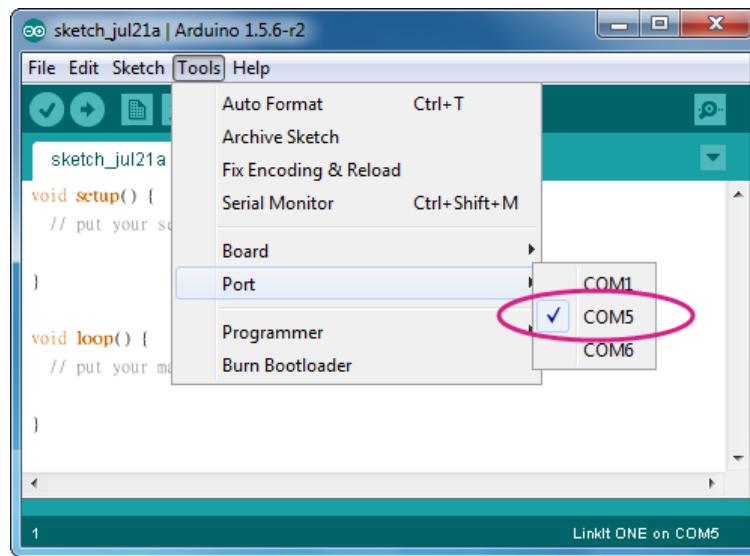

Figure 10 Setting the LinkIt ONE board's port number in Arduino IDE
- 7 In Arduino IDE on the **Tools** menu, point to **Port**. Click the COMx item that matches the LinkIt ONE board's port, as shown in Figure 10.